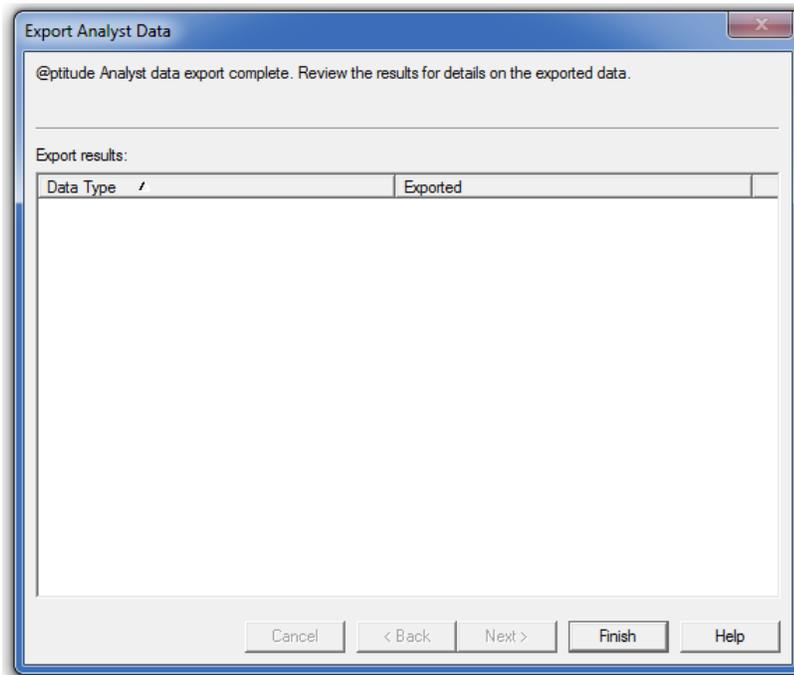

Figure 14. Click finish to exit
14. Click **Finish** to close the export window. [Figure 14]